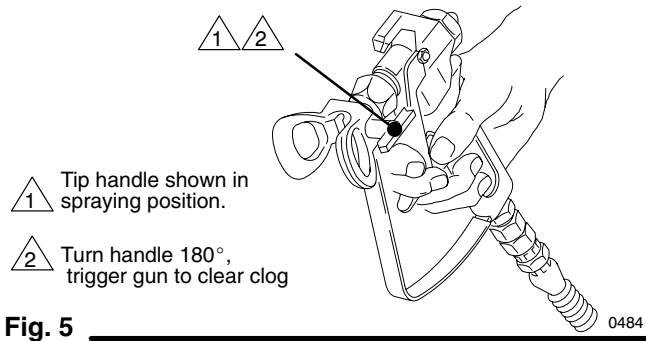

Fig. 5
The tip guard alerts you to the risk and helps prevent placing any part of the body close to the spray tip. The tip guard also adjusts the vertical or horizontal spray pattern. See page 10. The tip guard holds a reversing spray tip. The tip is in the spraying position when the tip handle points forward. See Fig. 5.
1. Release the gun trigger. Lock the safety latch. Rotate the RAC IV tip handle 180°. See Fig. 5.